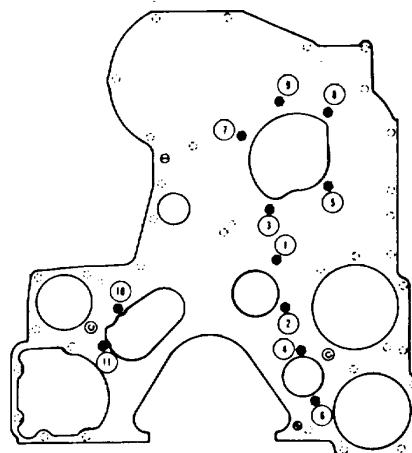

Figure 16N-17. Dowel and Mounting Capscrew Locations
2. Install the diamond dowel in the front of the cylinder block. The flats on the diamond dowel must be turned 90° to the master dowel. Make sure the dowel is fully seated at the bottom of the dowel hole. See Figure 16N-17 for the II location.
3. Use the eleven capscrews installed in the locations shown in Figure 16N-17 to install the steel plate to the cylinder block.